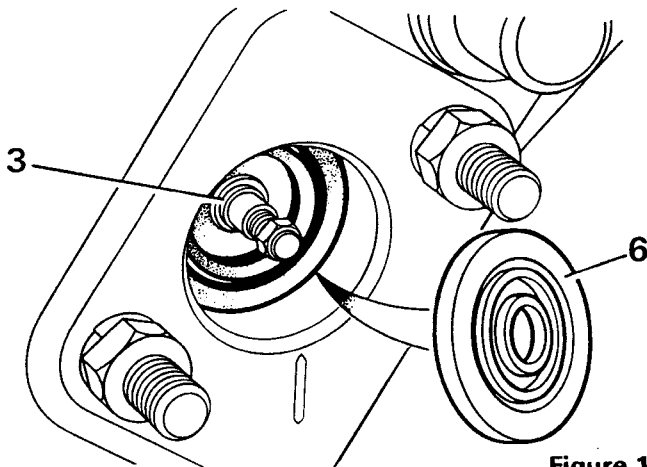

Figure 1
3. Remove the seal and plate assembly from the front shell recess, by gripping the centre rib of the assembly with a pair of long nosed pliers, and dispose of it, see Figure 1.